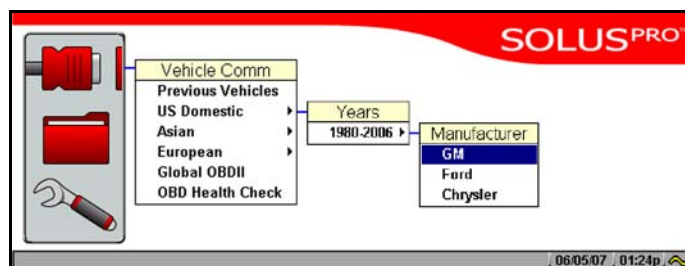

Figure 3-1 Scanner menu selection for Demonstration Mode
3. From the Scanner menu, navigate the submenus to highlight **US Domestic > 1980–2006 > GM**, then press **Y/✓** (Figure 3-1).